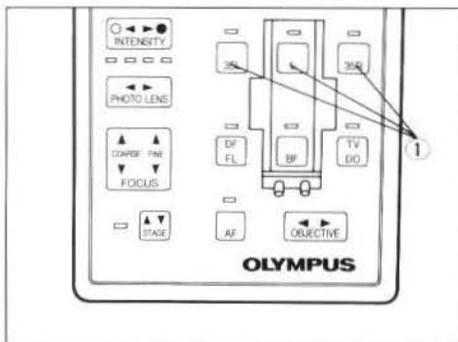

Fig. 23
3. Press one of the camera back selector buttons ① on the control box. (Fig. 23)